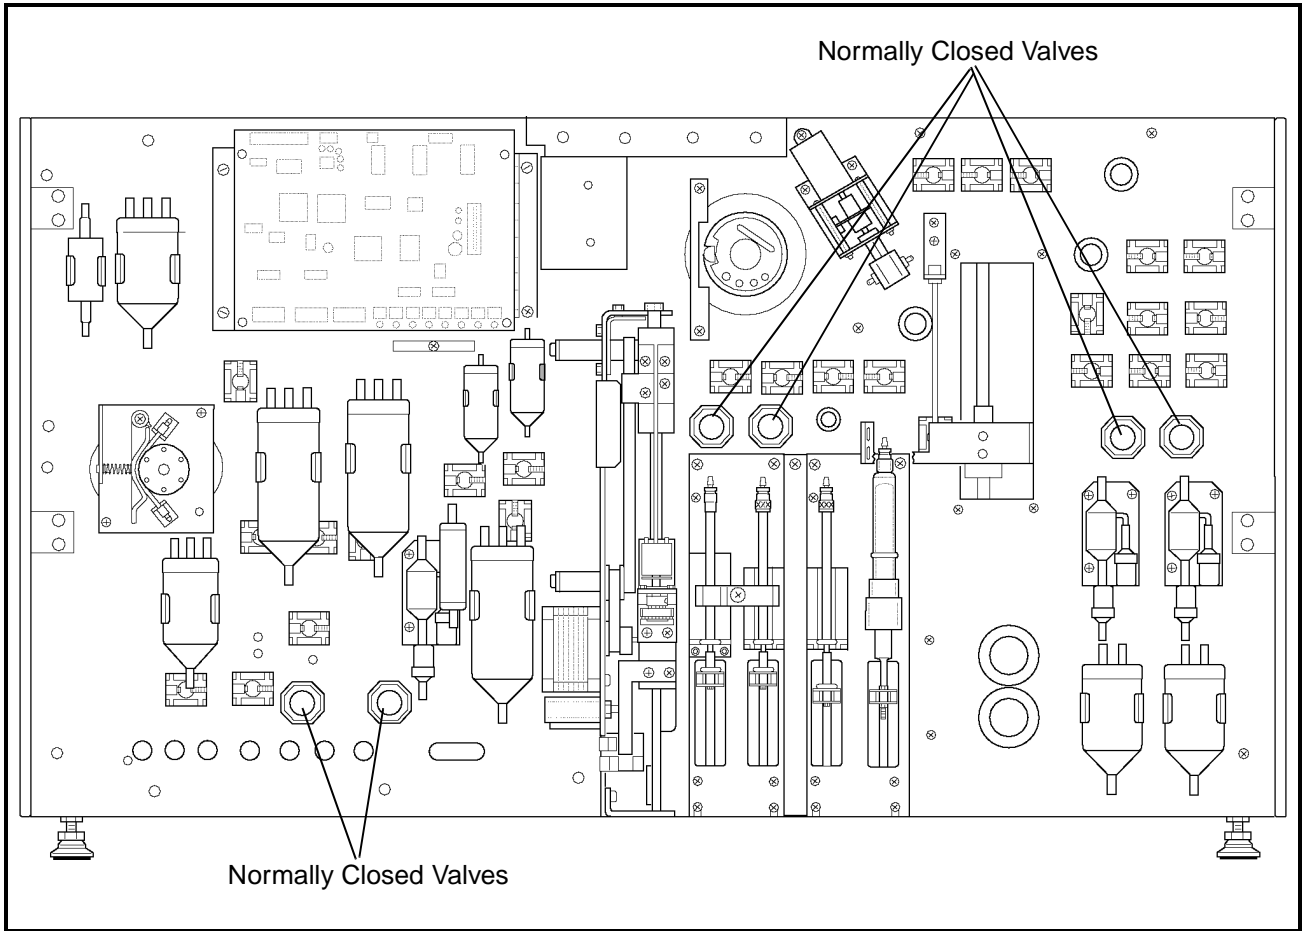

Figure 2.3: Normally Closed Valves
1. Locate the six normally closed valves on the flow panel. Refer to Figure 2.3 for the location of these valves.